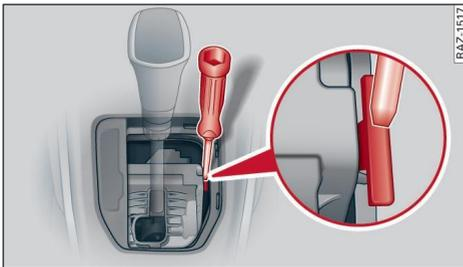

Fig. 77 Manual release mechanism (top right)
- ▶ Carefully lever off the boot with the screwdriver and, at the same time, pull the boot upwards at the crease with your hand until it is released at all four corners ⇒ *page 86, Fig. 77*.